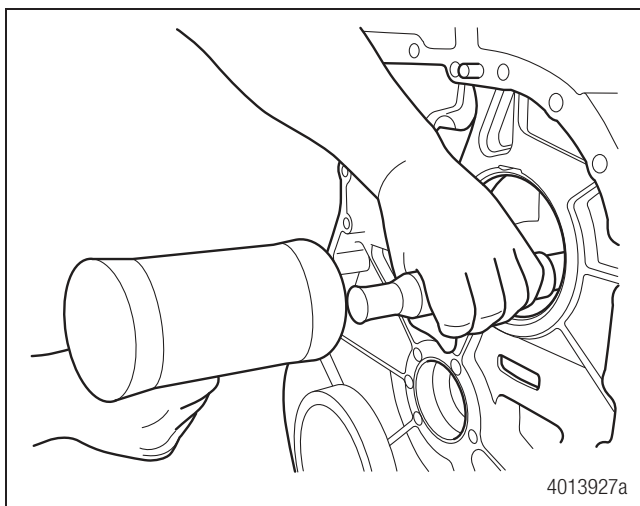
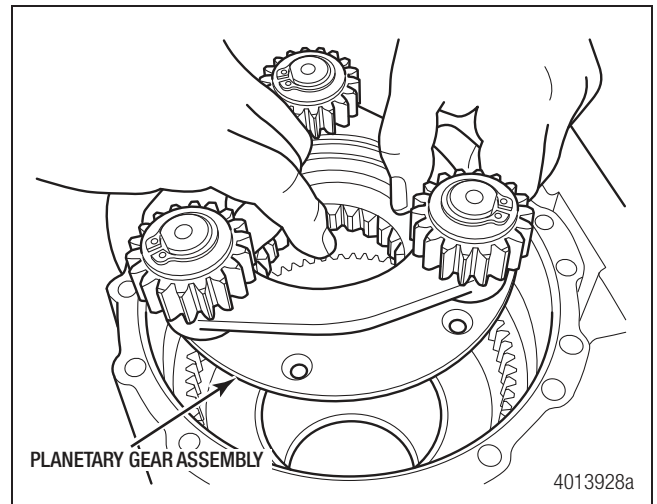

Figure 4.28
Figure 4.29
3. Rotate the front case half in the stand to a vertical position. From inside of the case, use a mallet and drift to carefully tap out the planetary carrier assembly. Once it is loosened, rotate the case to a horizontal position and remove the planetary carrier assembly from the housing. Figure 4.28 and Figure 4.29.